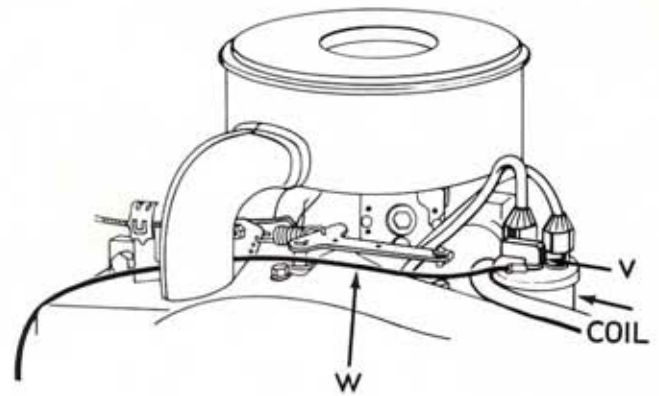

FIG. 11
1. For 16 H.P. Twin Cylinder engine lift up on terminal (V) to remove from coil (Figure 11.) Place shorting wire terminal eyelet (W) (wire found in plastic shipping bag) on stud of coil. Now replace terminal (V) on coil stud.